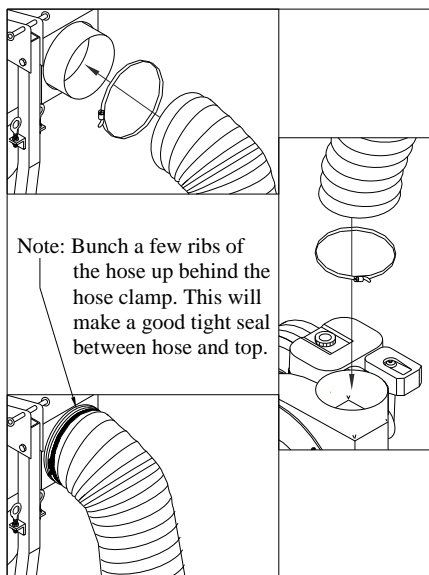

Fig. 8
7. Slip exhaust hose over intake nozzle (17) neck and tighten clamp. Slip hose clamp (22) over exhaust hose (23) and over turbine housing (5), and tighten clamp. On the intake side bunch the hose up against the molded top for a good airtight fit. **Fig. 8**